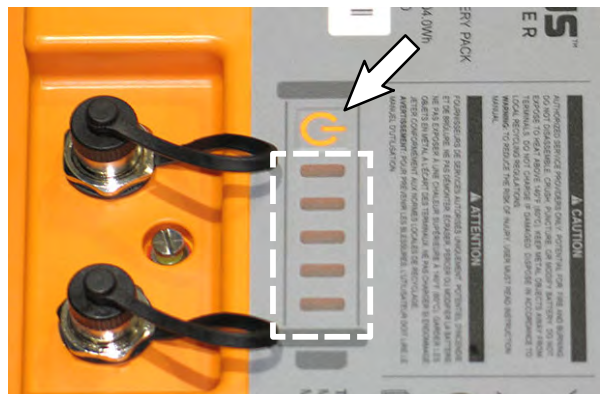

FIG. 9
7. Turn off the lithium battery pack. Press and hold the power button on one of the lithium batteries for 20 seconds to turn the entire battery pack off. (Fig. 9)